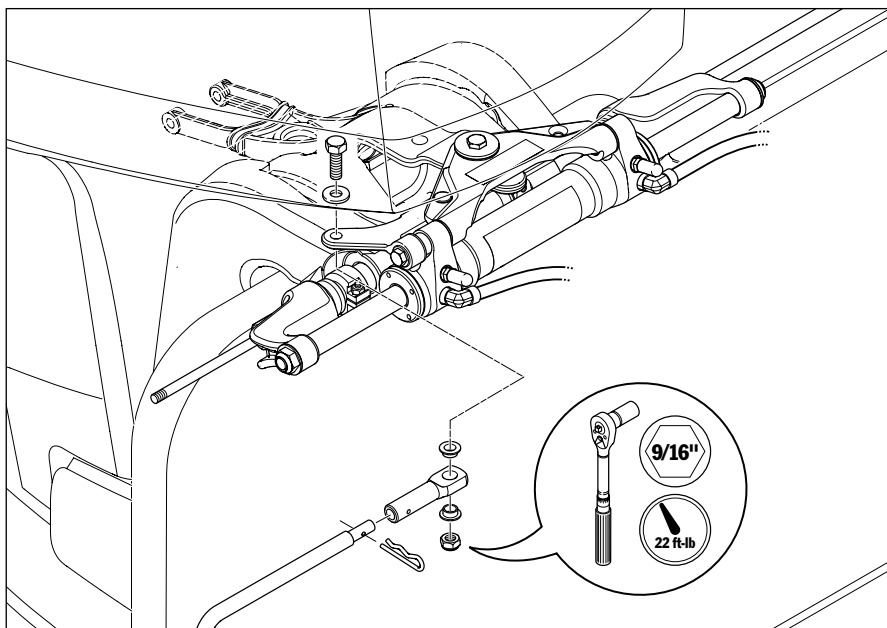

Figure 11.
- Install drag link onto drive plate ensuring that the brass bushings are installed on top of and below drag link, tighten and torque to 22 ft-lb (see Figure 11).